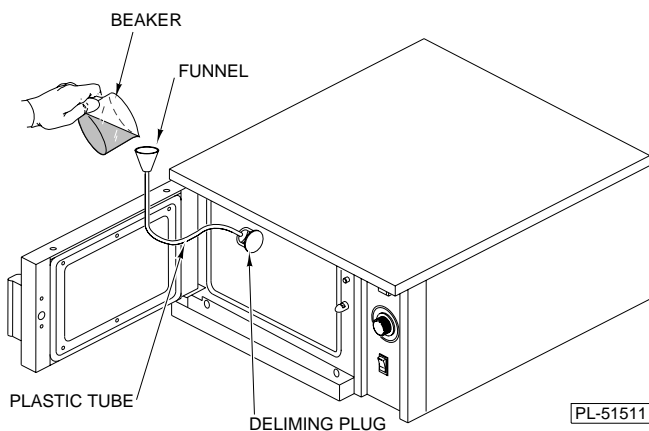

Fig. 4
STEP 2. If the Deliming Plug is inside the cooking compartment (Fig. 4), unscrew the plug so the hole points upwards.